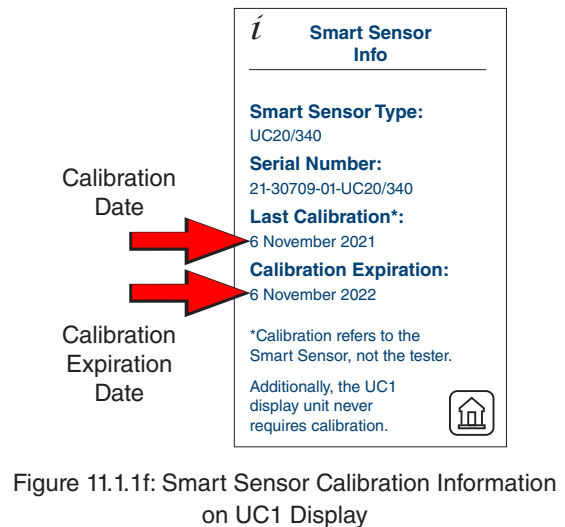

Figure 11.1.1f: Smart Sensor Calibration Information on UC1 Display
- The calibration information can also be displayed on the UC1 when the Smart Sensor is connected (Figure 11.1.1f).